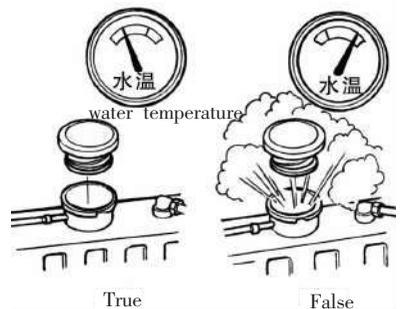

Fig 5-49 Check the Level of Coolant
6.4.2 During operating, the loss of the coolant should be checked and added at any time. Additive coolant should be clean soft water. After adding, let the engine start and run for some time. Check the level of coolant again. Add some coolant when needed (see Fig 5-49).